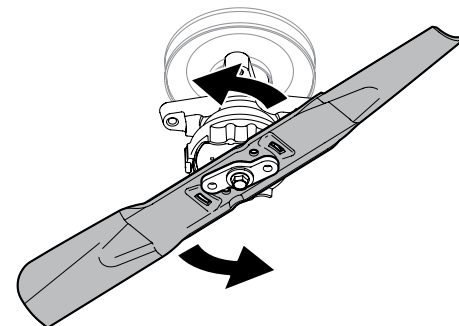

Figure 4-7
4. While holding the collar in the upward position, Rotate the blade counterclockwise to free it from the collar. See Figure 4-7.